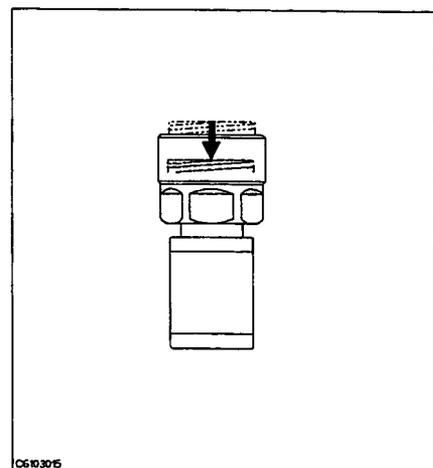

Figure 5-10.
12. Verify that the connector sleeve is retracted fully as shown in Figure 5-10.